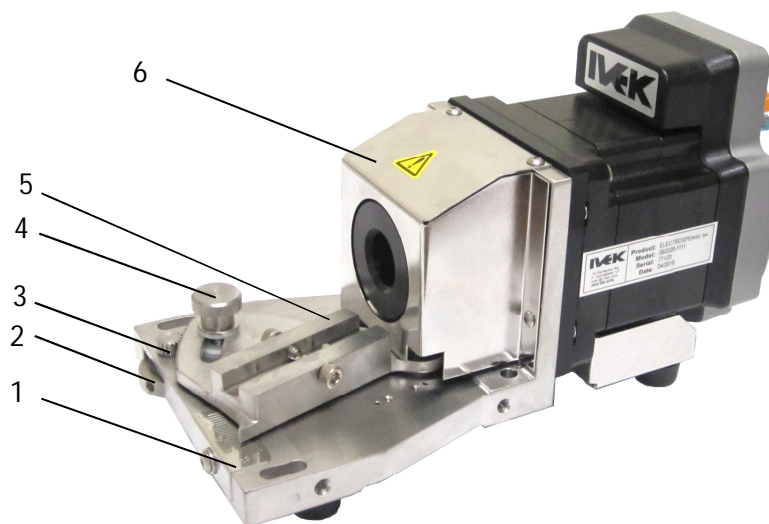

Figure 3.4 Single Ended Heavy Duty Motor/Base Module Replacement Parts
3.4.2 Assembly/Disassembly Procedures (Figure 3.4)
- Vernier Scale (1)
- Thumb Nut (4)
- Thumb Wheel (2)
- Swing Plate Fabrication (5)
- Pinion Shaft (3)
- Sensor End Shield (6)
3.4.2.1 Vernier Scale (Figure 3.4 Item 1)
3.4.2.2 Thumb Wheel (Figure 3.4 Item 2) and Pinion Gear (Item 3) and Bearings
3.4.2.3 Thumb Nut (Figure 3.4 Item 4) and Bearings
3.4.2.4 Swing Plate (Figure 3.4 Item 5) and Bearings
3.4.2.5 Spindle End Shield (Figure 3.4 Item 6)